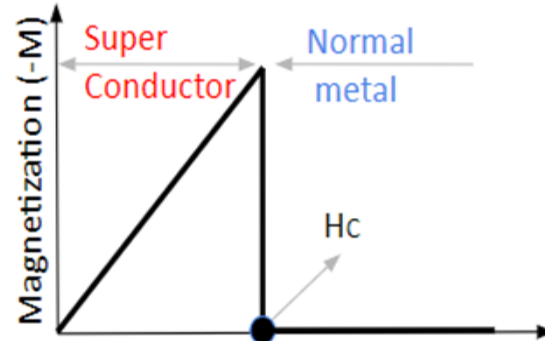

Figure 7b: Magnetization Vs Field
- Thus at the critical field (H_c), magnetization abruptly drops down to zero and material returns to normal state as shown in *Figure 7b*.